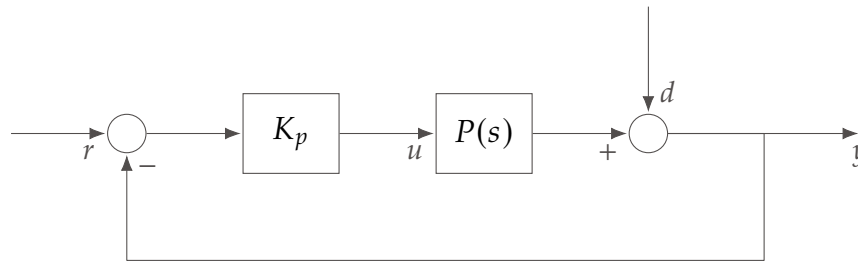

Figure 2.1: Closing the loop around the Plant $P(s)$ for Lab 2. Note that the loop is closed *after* the disturbance has been added to the output.
a proportional error controller. When analyzing the *closed-loop system*, we put our system in the form depicted by Figure 2.1.
- (1) **Ensure** your system is in the closed-loop configuration as depicted in Figure 2.1.
- (2) Choose a sequence of three gains to test. One of these gains must be $K_p = 1$. You may choose any value that is allowed by the slider gain provided to you in the Simulink Diagram.
- (3) For each of your chosen gains K_p , **compute** the step response and **fill** the relevant row of the table in Deliverable 2.3
- (1) **Put** your system in the closed-loop configuration as depicted by Figure 2.1. **Ensure** the gain K_p is set to 1.
- (2) Repeat steps (3)–(5) of Procedure 2.3.
- (1) **Ensure** the system is in the closed-loop configuration depicted in Figure 2.1. **Set** the gain K_p to 1.
- (2) **Remove** the “Input Perturbation” annotation from the reference signal. This amounts to repeating the process described in Appendix A.1, i.e., right-click the signal wire r and select **Linear Analysis**